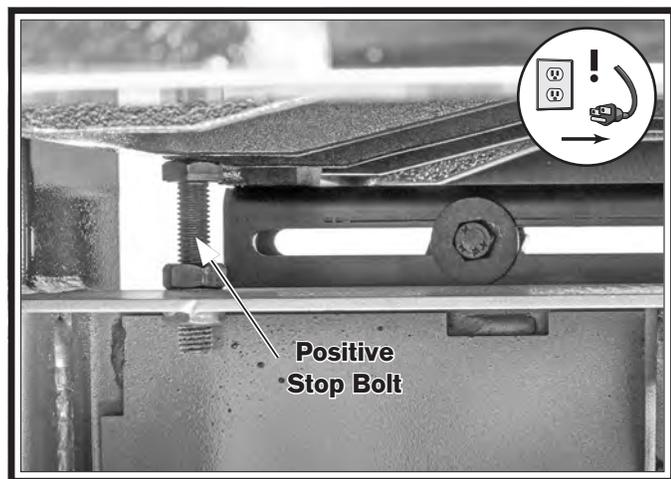

Figure 62. Location of positive stop bolt.
3. Use handwheel to tilt table to desired angle, then secure position by tightening table tilt lock lever (see **Figure 62**).
4. Loosen jam nut on stop bolt (see **Figure 62**) and turn bolt until it just touches bottom of table.